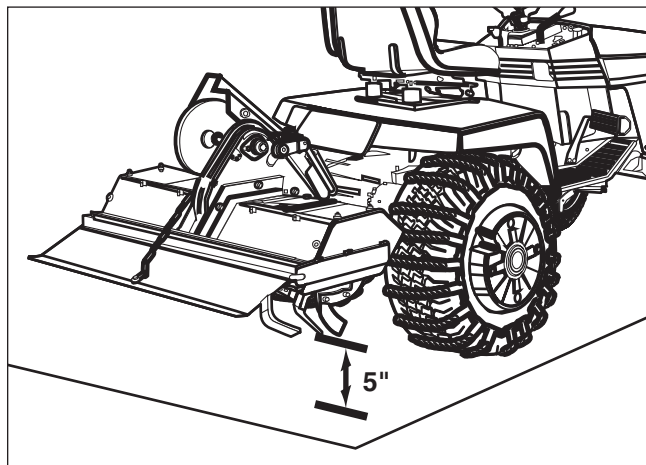
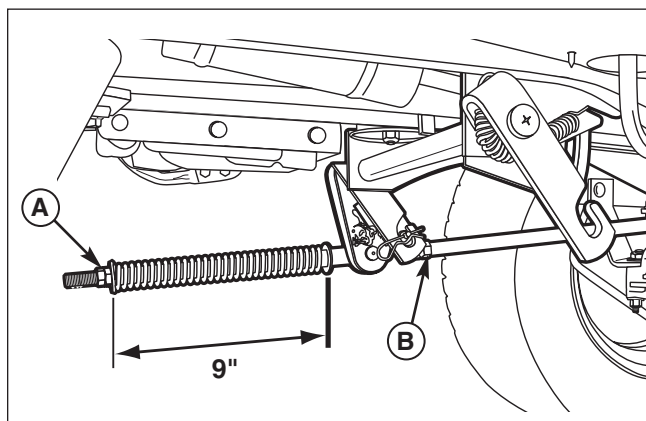

Figure 22. Lift Height Adjustment
Figure 23. Lift Rod Spring Adjustment
4. Adjust the rear lift rod nuts (B, Figure 23) until the bottom tines are 5" above the ground.
5. Adjust the front lift rod nuts (A, Figure 23) until the rod spring is compressed to a length of 9".
3. Adjust the rear lift rod nuts (B, Figure 23) until the bottom tines are 5" above the ground (Figure 22).
4. Adjust the front lift rod nuts (A, Figure 23) until the lift rod spring is compressed to a length of 9".